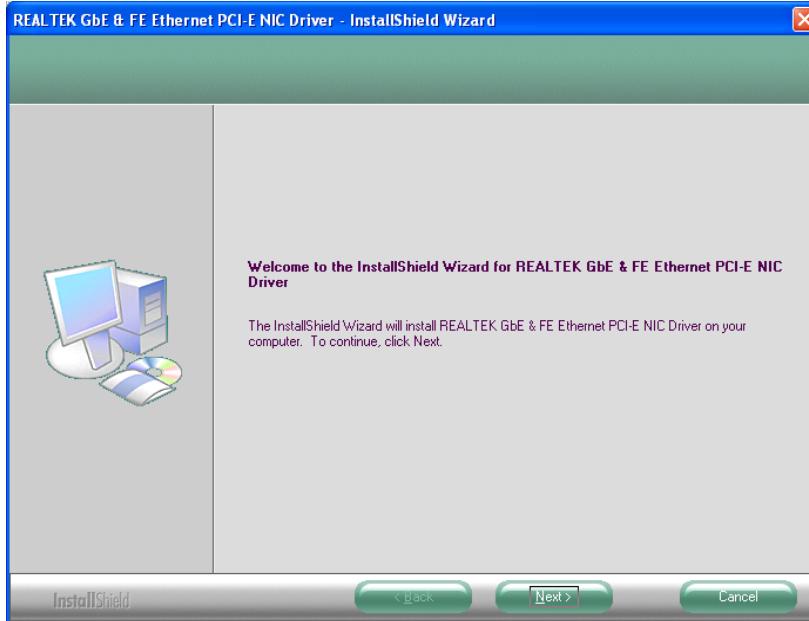

Figure 6-14: LAN Driver Welcome Screen
- Step 3:** The **Welcome** screen in **Figure 6-14** appears.